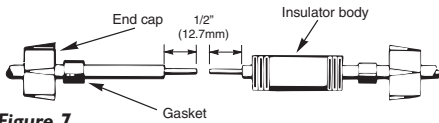

Figure 7
4. Unscrew plastic caps from insulators. Place a cap and a neoprene gasket sleeve on each wire end to be spliced (see Figure 7).
5. Slide insulator body onto one wire end (Figure 7).